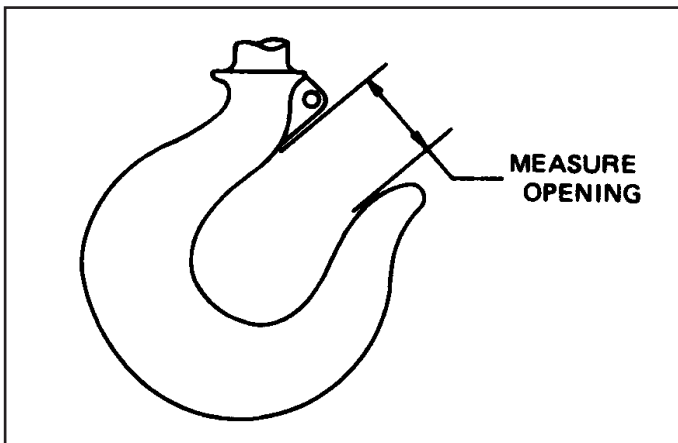

Figure 5-5. Lower Hook Opening (Shown with latch removed for clarity.)
- as. DO NOT operate hoist with hooks that have opened up. See Figures 5-5 and 5-6.
(1) Check for bent or distorted hook. If hook is opened beyond the dimension given in figure 5-5, it must be replaced. Also check to see that hook swivels and is free to pivot. Lubricate these points if necessary.